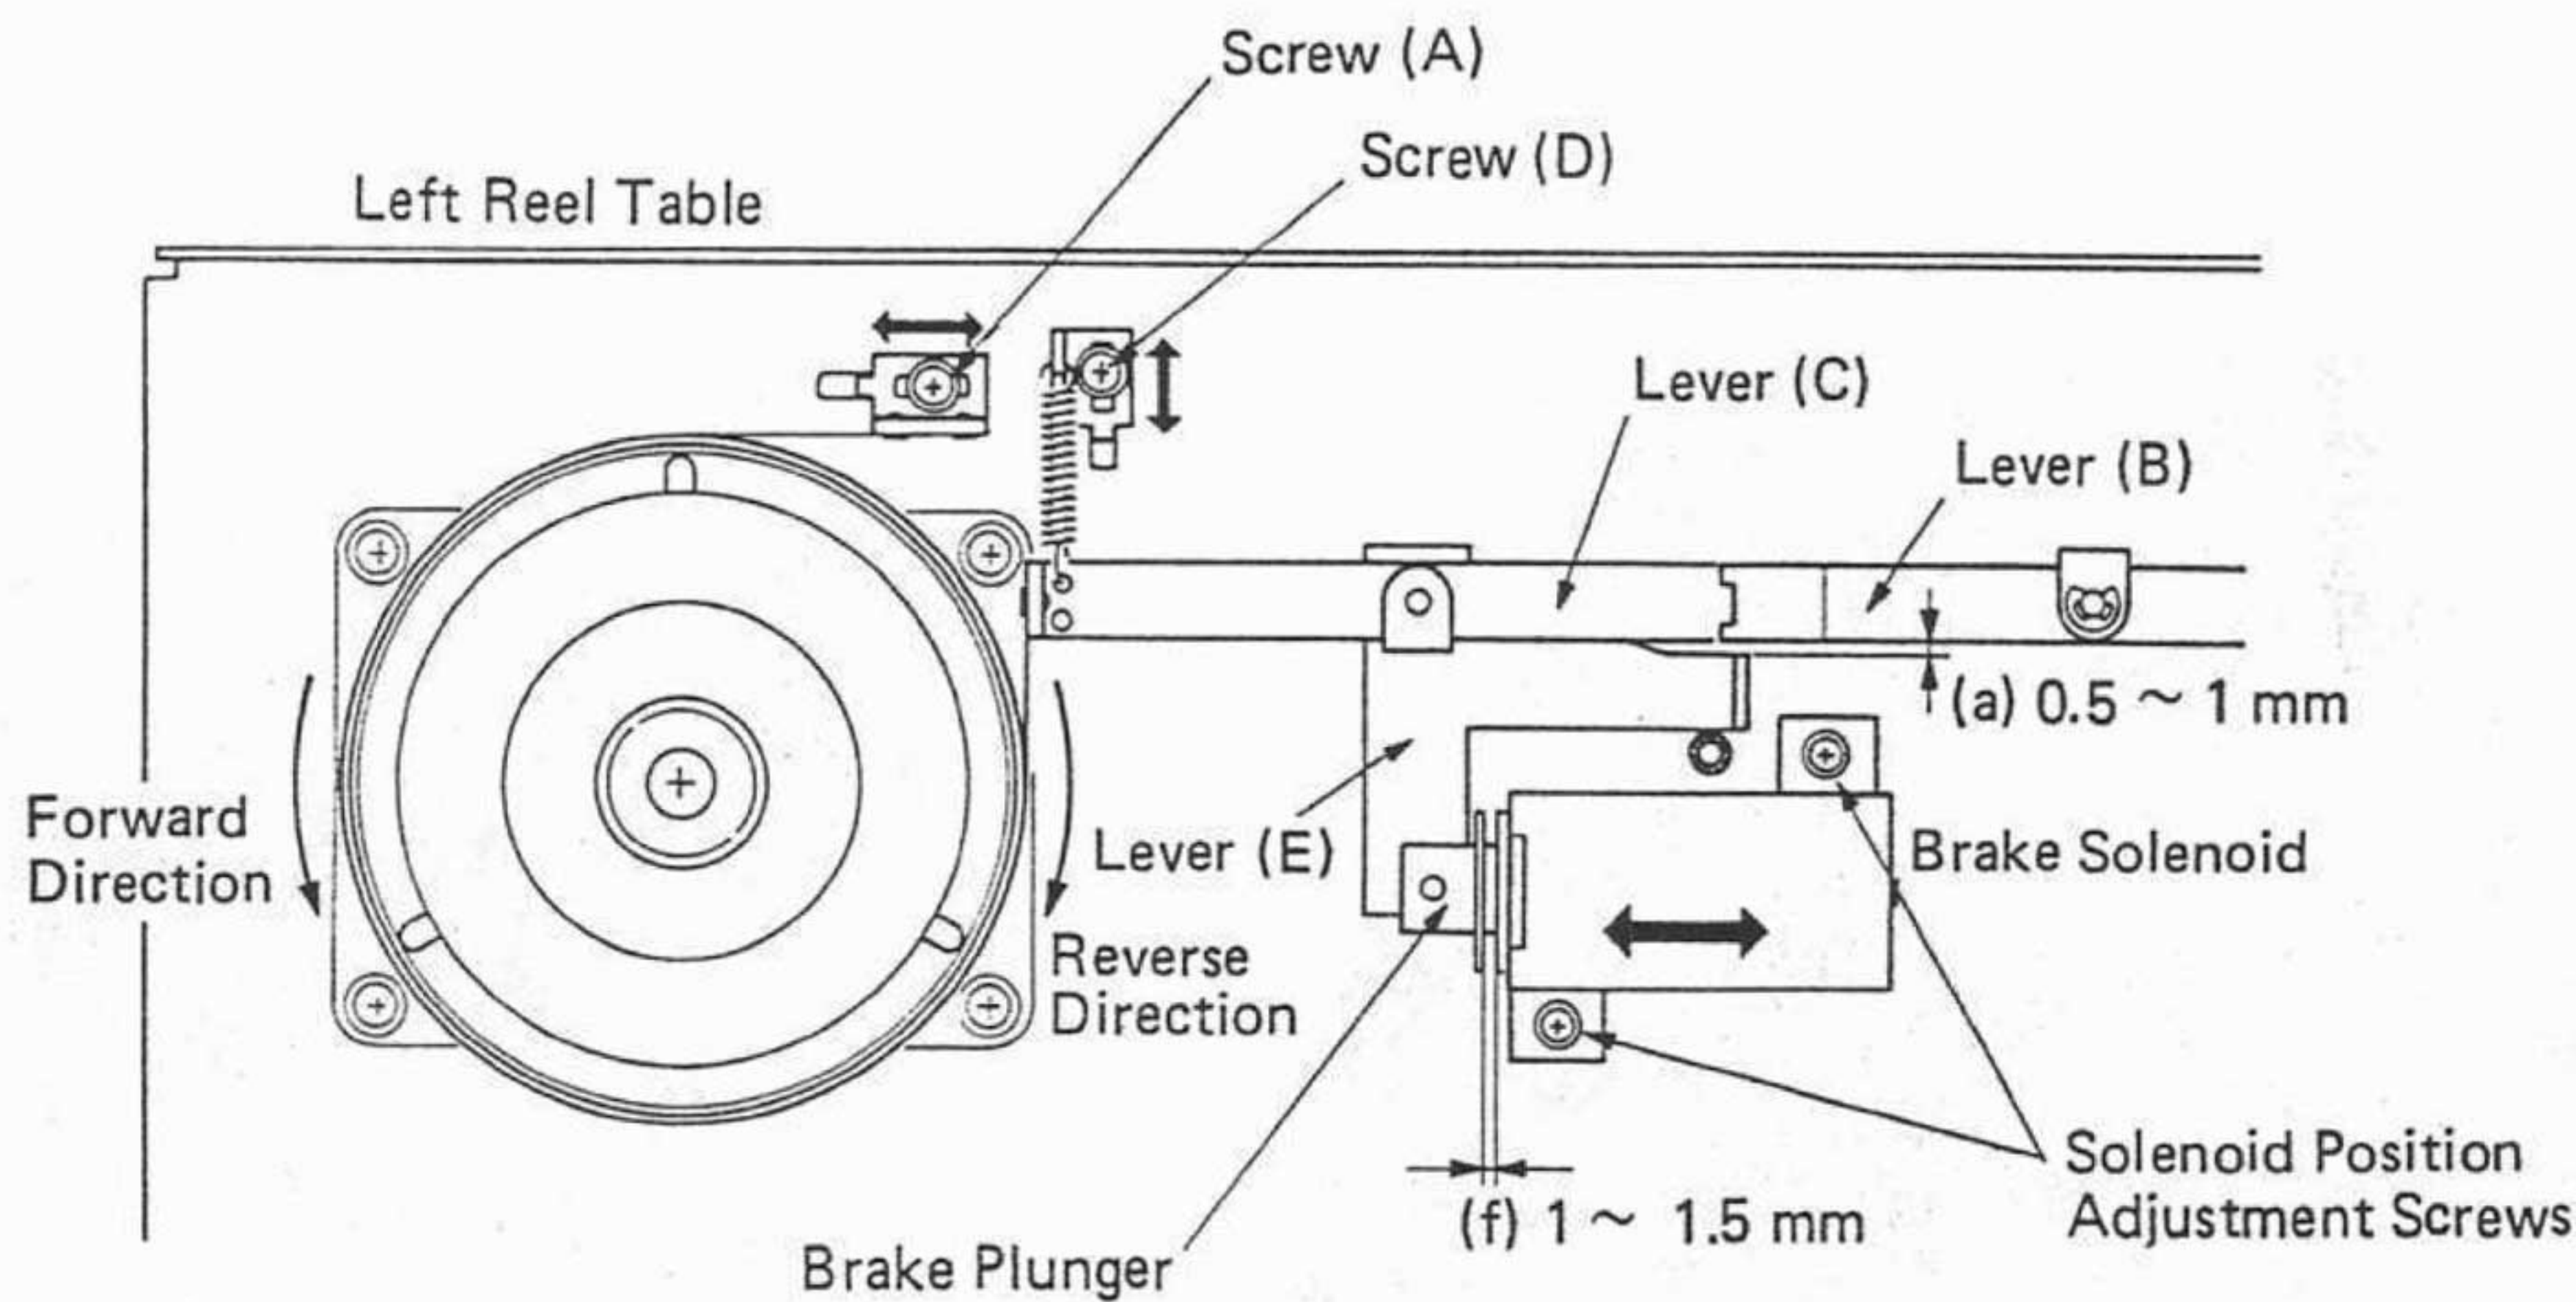

FIG. 15. BRAKE MECHANISM & TORQUE ADJUSTMENTS
- 1. Refer to Fig. 15 and adjust screw (A) so clearance (a) is within 0.5 and 1 mm. If adjusting the (A) screw does not provide any clearance, it will be necessary to move the brake solenoid until gap (f) (plunger and washer distance) is within 1 and 1.5 mm.
- 2. Adjust screw (A) of the right brake assembly (not shown in the figure) so lever (B) is parallel to lever (C).
- 3. If forward brake torque is not within specifications, adjust the spring hanger hooking position by loosening screw (D) shown in Fig. 15. If this adjustment has no effect or